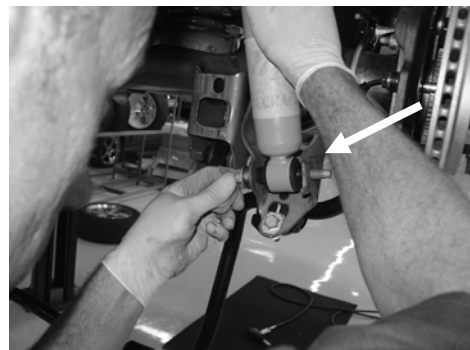

Figure 2
2. Put the bottom of the shock into the bolting location. With the top lined up with the trunk hole, tighten bottom of shock. Decal faces rear fascia. Use a 15 mm socket with a 3/8" impact gun. (Figure 2) Repeat on other side.